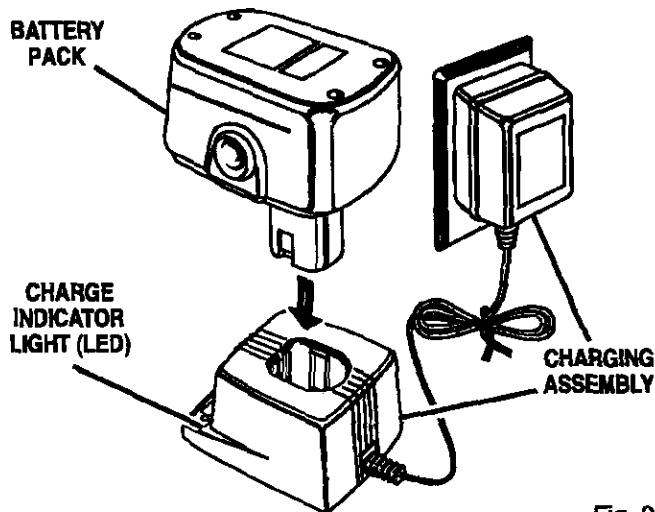

Fig. 2
- Place battery pack in charging assembly. Align raised rib on battery pack with groove in charging assembly. See Figure 2.
See Figure 2.